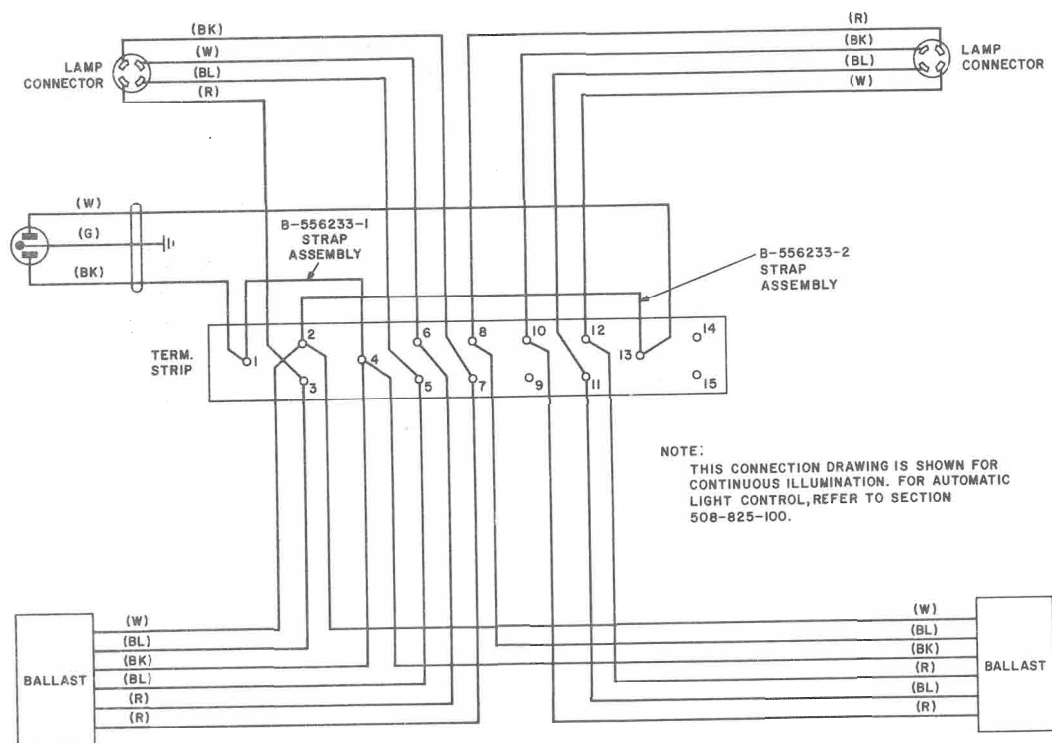

Fig. 7—Connections For List 4 or List 6 Unit
(c) List 4 unit is provided with terminals to be connected for continuous illumination or for automatic operation with a light control unit (Fig. 7).
- (c) List 6 unit is provided with terminals to be connected for continuous illumination or for automatic operation with a light control unit (Fig. 7).